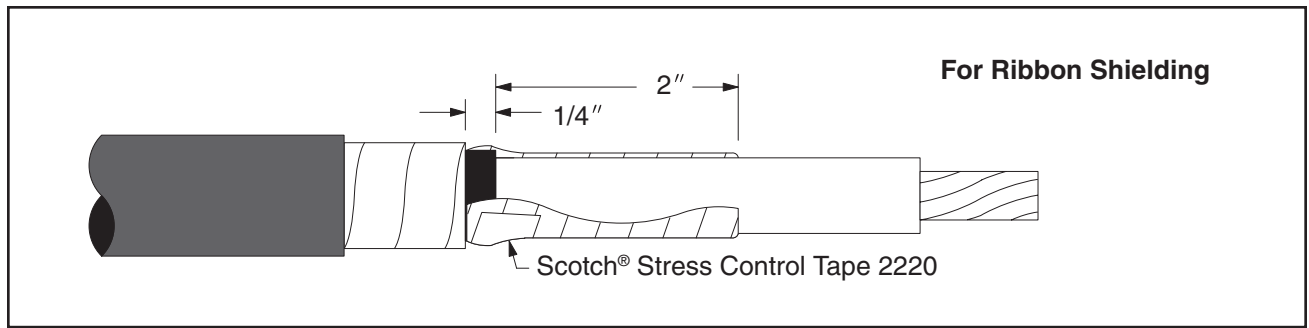

Figure 8a
- 6.1 Apply two half-lapped layers of Scotch® Stress Control Tape 2220 for 1/4" onto the cable semi-con (1/2" onto UniShield® jacket) and extend two inches onto cable insulation (wrap tape silver side out). *Figures 8a, 8b or 8c, depending on type of cable shielding.*